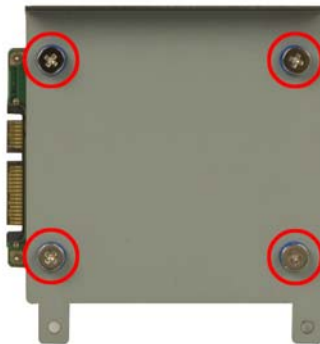

Figure 4-7: PPC-3708 HDD Retention Screws
Step 3: Attach the HDD bracket to the HDD. To do this, align the four retention screw holes in the HDD bracket with the retention screw holes on the bottom of the HDD. Insert four retention screws into the HDD bracket. (**Figure 4-7**).